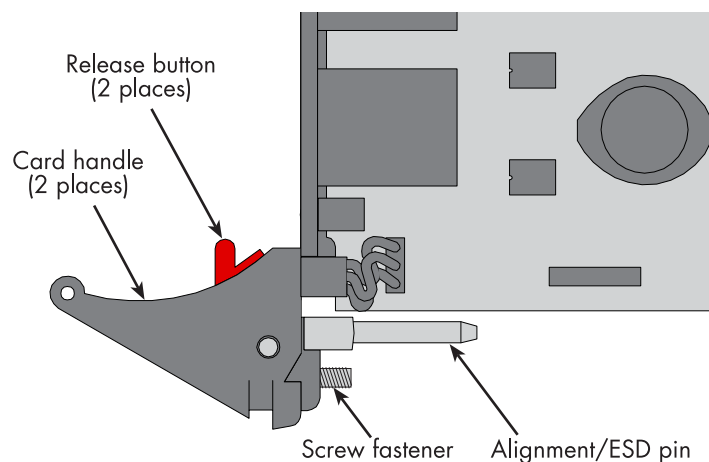

Figure 12. Alignment/ESD pin and card handle
3. Unlatch both handles on the Matrix Switch blade by pressing in on the red release button in each handle (see figure 12).
4. While holding the Matrix Switch from the card handles (see figure 12), align the Matrix Switch with the guide rails of the appropriate slot and slide it back until it touches the backplane connectors and the alignment/ESD pin (see figure 12) engages the chassis. When the blade is fully seated, the red release buttons in the handles click up automatically, thus locking the handles.